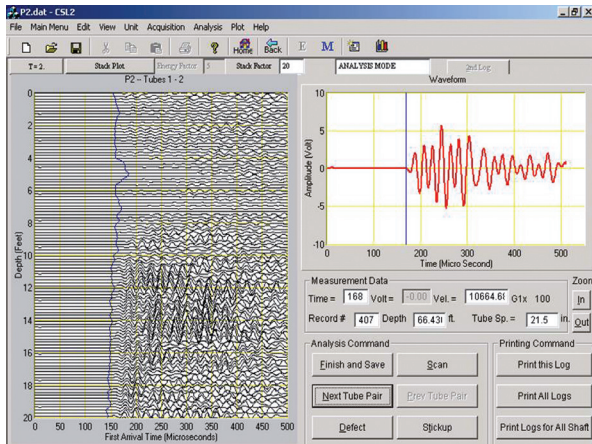

Figure 26: Stack Plot
4. Stack Plot: Alt + 4 or Plot/Log, Plot/Stack Plot (see Fig. 26)